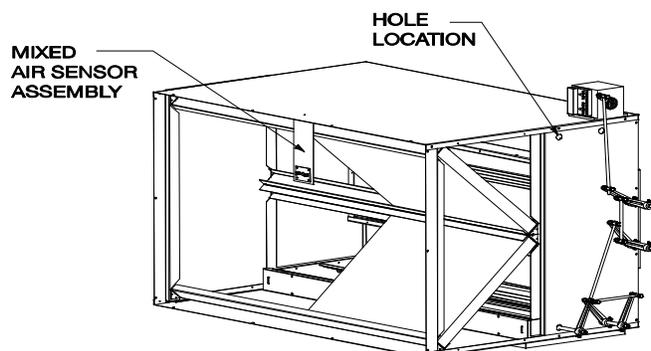

Fig. 15 — Mixed Air Sensor Installation
2. Place mixed air sensor assembly in airstream as shown in Fig. 15.
4. Drill or knockout 1/2 in. hole into top of mixing box close to actuator as shown in Fig. 15.